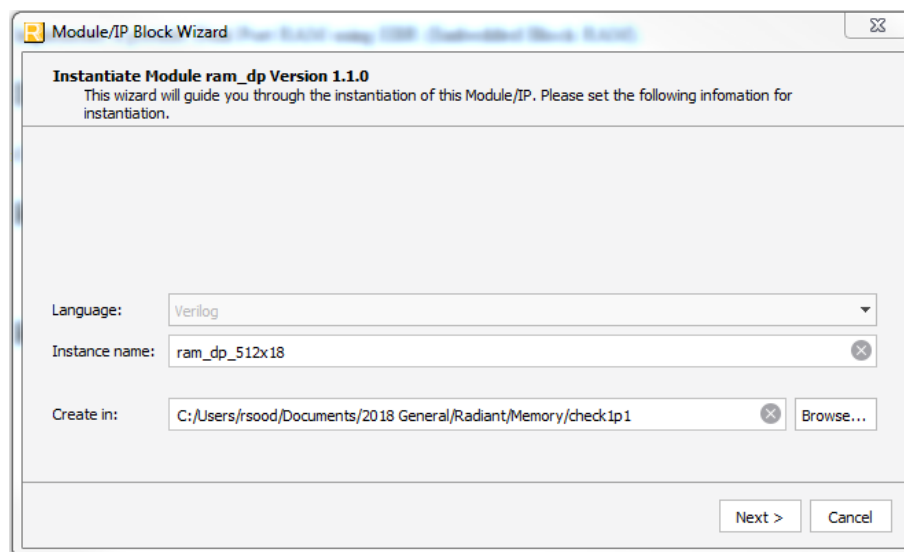

Figure 2.3. Example: Generating Pseudo Dual Port RAM (RAM_DP) Using IP Catalog
2. Fill out the information of the module to generate as shown in Figure 2.3.